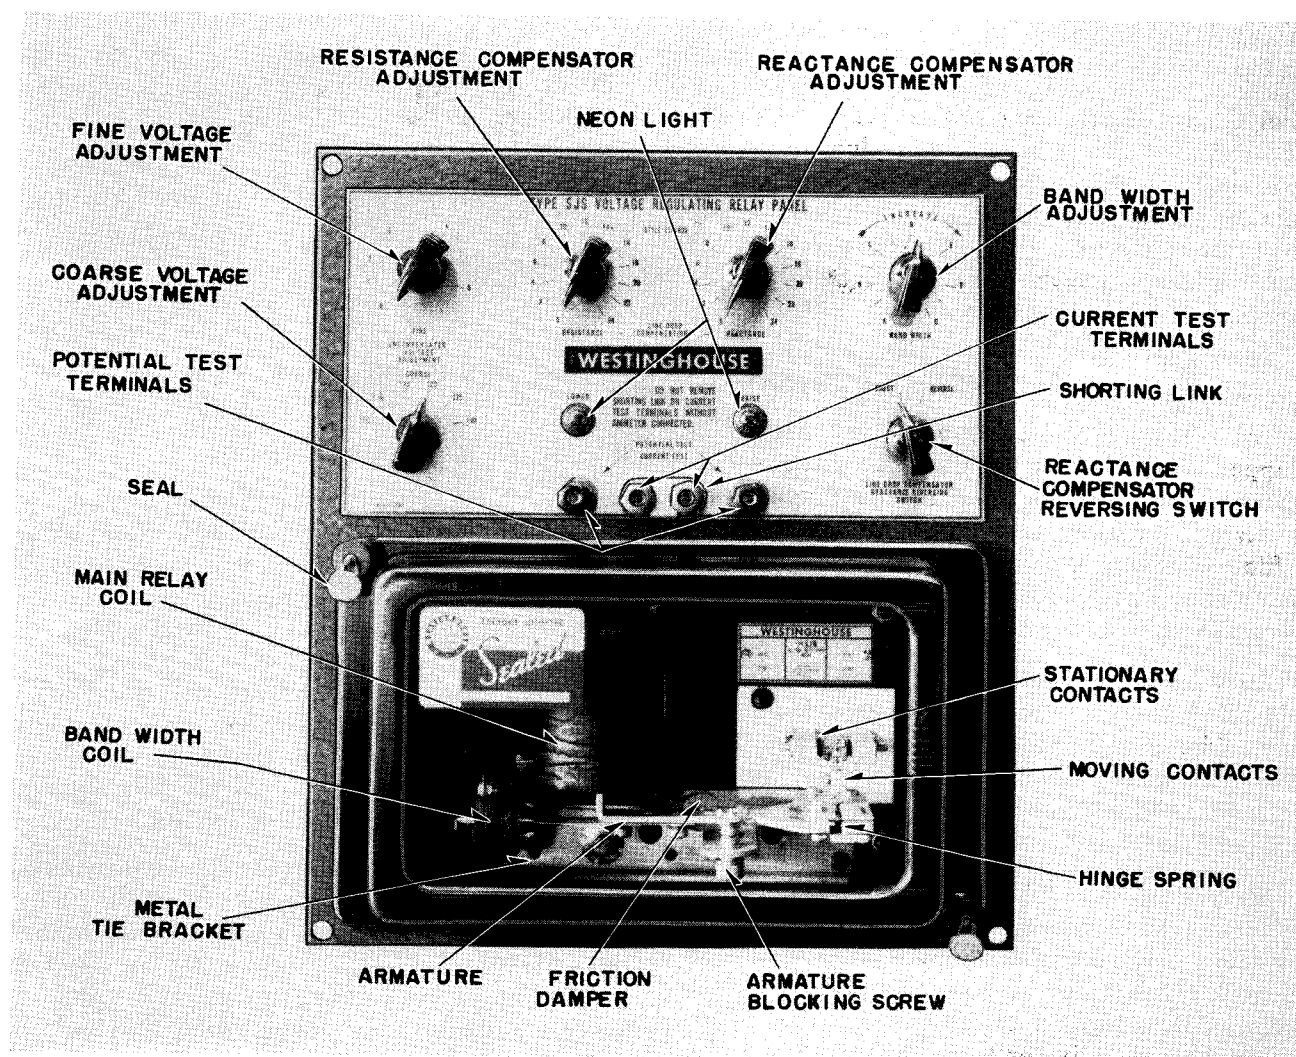

FIG. 4. Front View of SJS Relay and SJS Relay Panel
**Voltage Regulating Relay Panel.** External circuit components for electrically setting the balance voltage, the band width, and the line drop compensation are mounted on the SJS voltage regulating relay panel as shown in Figs. 4 and 6. The panel is designed for use as a unit in the complete tap changer control assembly.